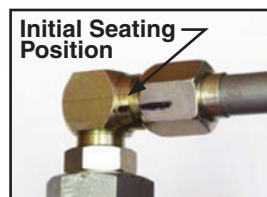

Fig. JA2 Mark Finger Tight Position
5. Mark nut and adjacent fitting surface to indicate initial seating position. See Fig.JA2.